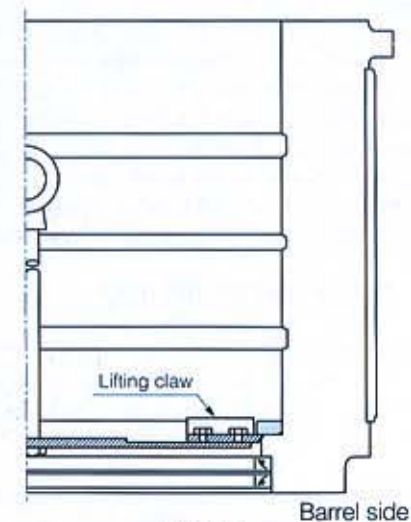
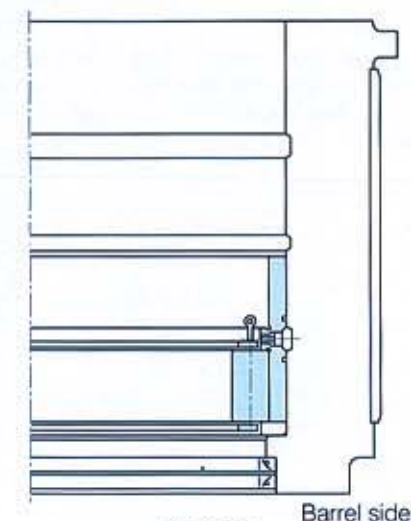

Fig. 3.21
Fig. 3.22
- (1) Set the chock with the barrel side facing downward.
- (2) Apply the lubricant over the chock bore surface, and then apply the lubricant over all the surfaces of the rib ring.
- (3) Lift the rib ring with the marked end facing downward, and insert. (**Fig. 3.21**)
- (4) Use a clearance gauge to check if the rib ring end surface contacts the chock shoulder tightly.
- (5) Apply the lubricant over the outer ring with matching symbols A and B and over the roller's rolling surface, and both end surfaces of the row A rollers.
- (6) Place the outer ring with matching symbol A side facing downward on the cage with marked side (row A) facing downward. Install special eyebolts into the four tapped holes provided in the cage. Lift the cage and the outer ring, verify that the load position numbers match each other, and insert the outer ring into the chock. (**Fig. 3.22**)